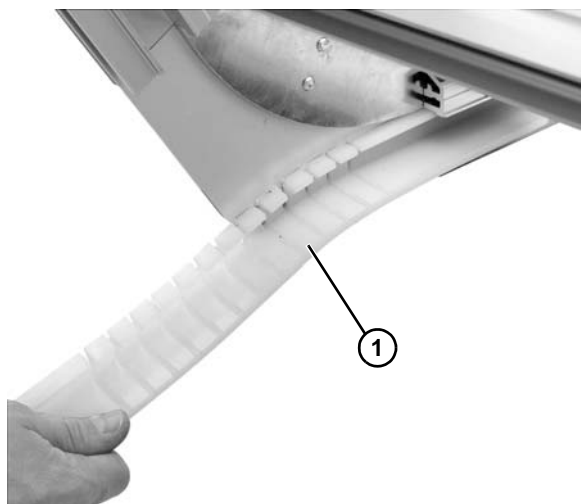

Figure 86
7. Remove belt return wearstrip (**Figure 86, item 1**). Repeat on opposite side.